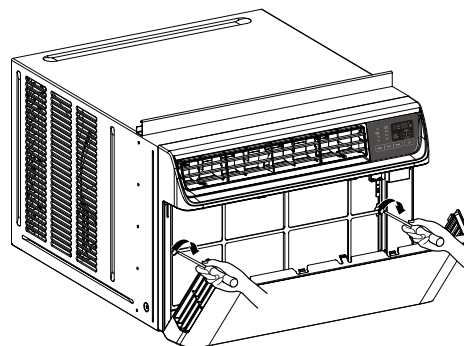

Figure 1
2. Remove the screw that fastens the front grille. (See Figure 1)